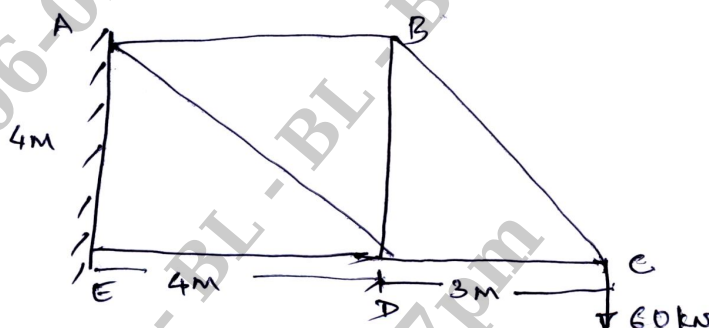

Fig.Q8(b)
b. Determine the vertical deflection at D for the loaded frame shown in Fig.Q8(b) by using unit load method. The cross sectional areas of members are 1500 mm^2 for AD and DE, while others are 1000 mm^2 . Take $E = 200 \text{ kN/mm}^2$.